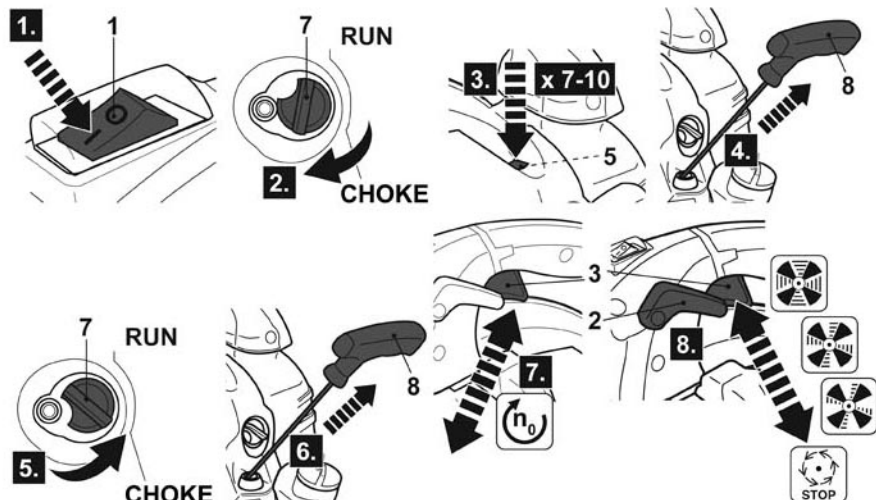

Fig. 16
- > Set the ignition switch (1) to the ON position **I** (Fig. 16, step 1).
- > Turn the choke (7) clockwise to the position **CHOKE** (Fig. 16, step 2).
- > Press the primer (5) 7 to 10 times (Fig. 16, step 3).
- > Hold the product securely to the ground and then pull the recoil starter handle (8) lightly until you feel resistance then pull it rapidly until you hear the first firing occur (Fig. 16, step 4).
- > Turn the choke (7) anticlockwise to the position **RUN** (Fig. 16, step 5).
- > Hold the product securely to the ground and then pull the recoil starter handle (8) lightly until you feel resistance then pull it rapidly until the engine starts (Fig. 16, step 6).
- > Squeeze and release the throttle trigger (3) to warm up the engine (Fig. 16, step 7).
- > Have firm grip on the handles. For vacuuming operation, grip the product with both hands, the left hand on the auxiliary handle (13) and the right hand on the main handle (4); for blowing operation, grip the product with the right hand on the main handle (4).
- > Squeeze the throttle trigger (3) to start the operation (Fig. 16, step 8). The speed is controlled by how far the throttle trigger is depressed.
- > Use the lock-on lever (2) to lock the throttle trigger (3) in position for continuous operation if required.